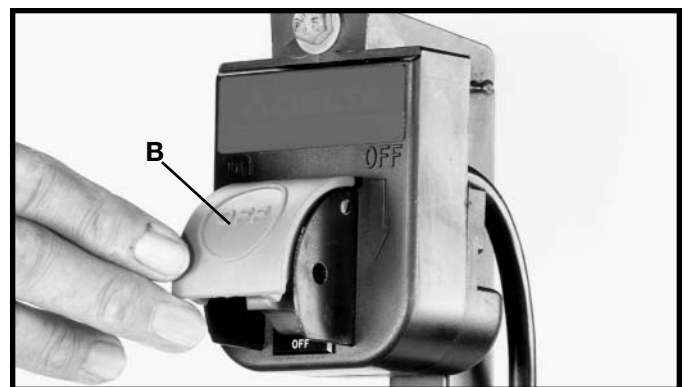

Fig. 32
2. To turn the jointer "OFF", push down on switch shield (B) Fig. 32, as shown.